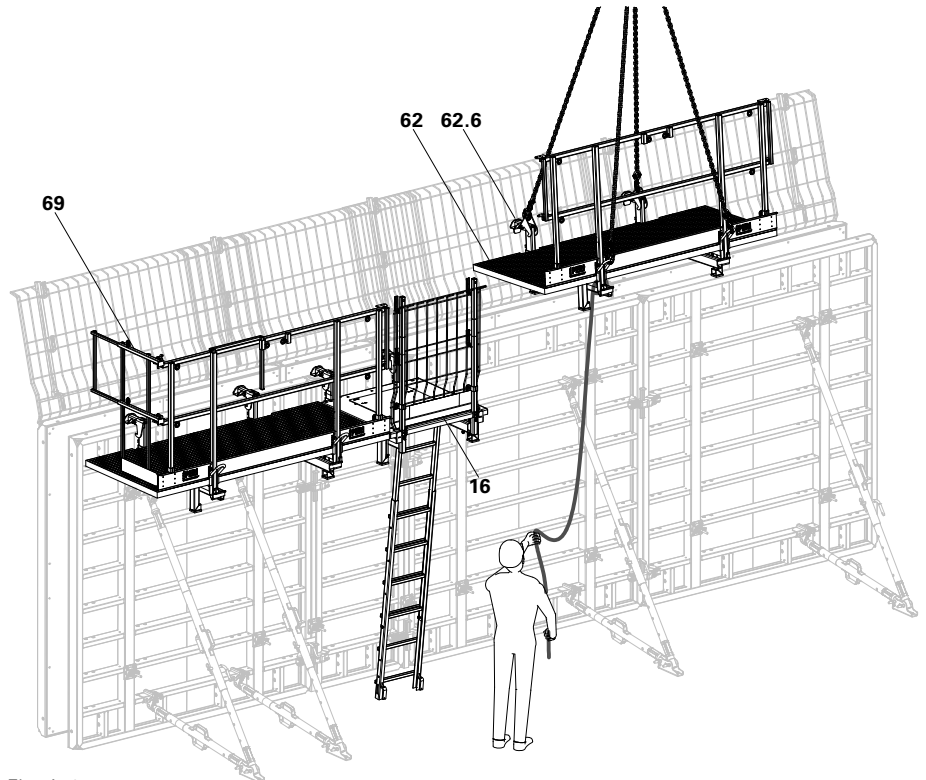

Fig. A13.11
1. Attach the concreting platform (62) with the suspension beams (62.2) to the top frame profile of the panel. Guide from below using guide rope. (Fig. A13.11)